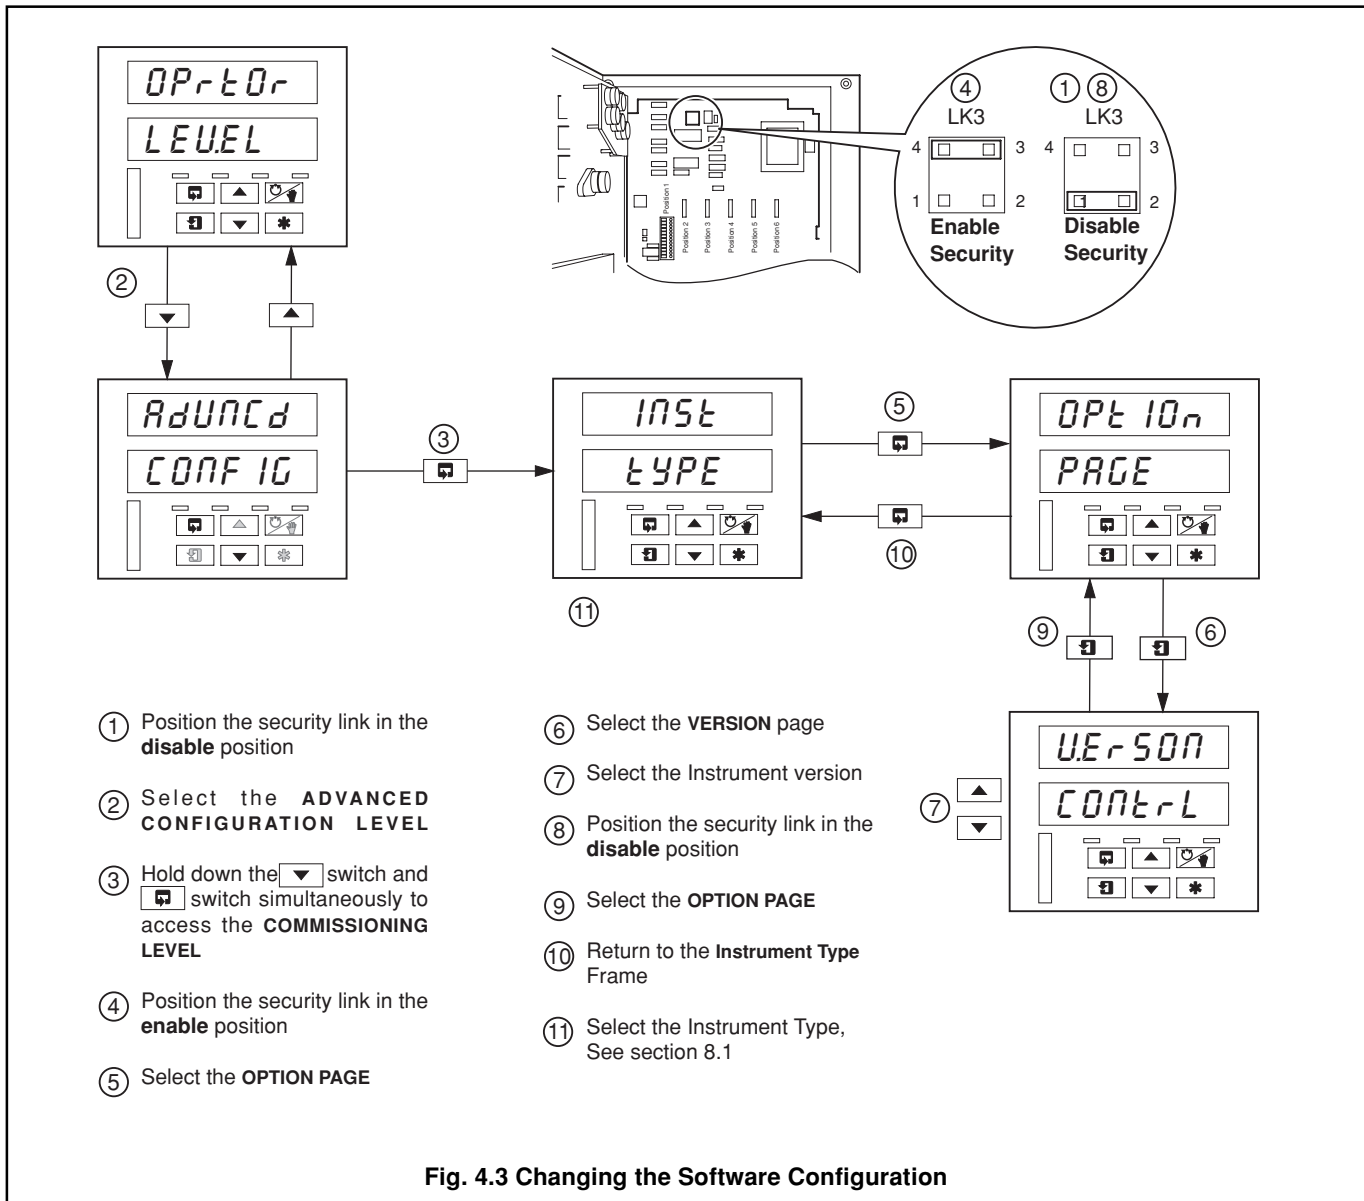

Fig. 4.3 Changing the Software Configuration
4.3 Changing the Software Configuration – Fig. 4.3
- For access to the **COMMISSIONING LEVEL** refer to steps 1 to 3 of Fig. 4.3.